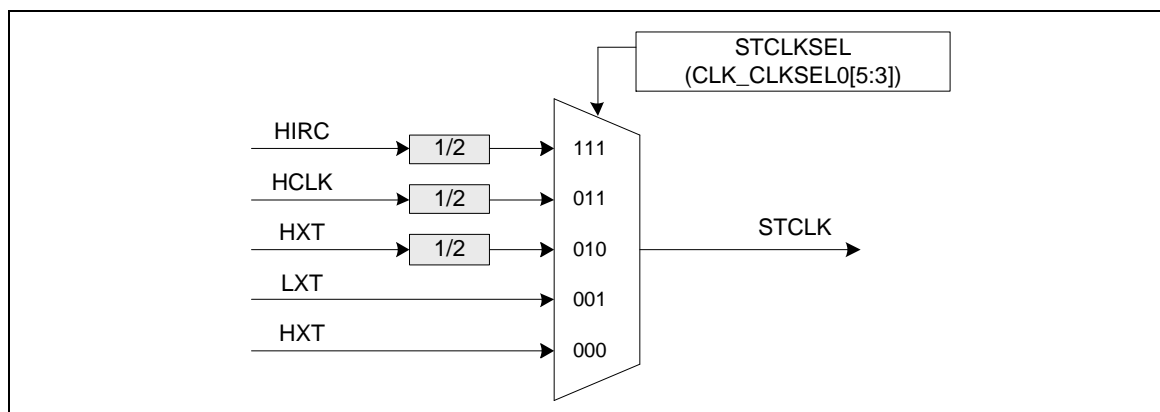

Figure 6.3-5 SysTick Clock Control Block Diagram
- If CLKSRC = 0, SysTick clock source is from one of the 5 external reference clock, which is chosen by STCLKSEL bits (CLK_CLKSEL0[5:3]), shown in Figure 6.3-5.